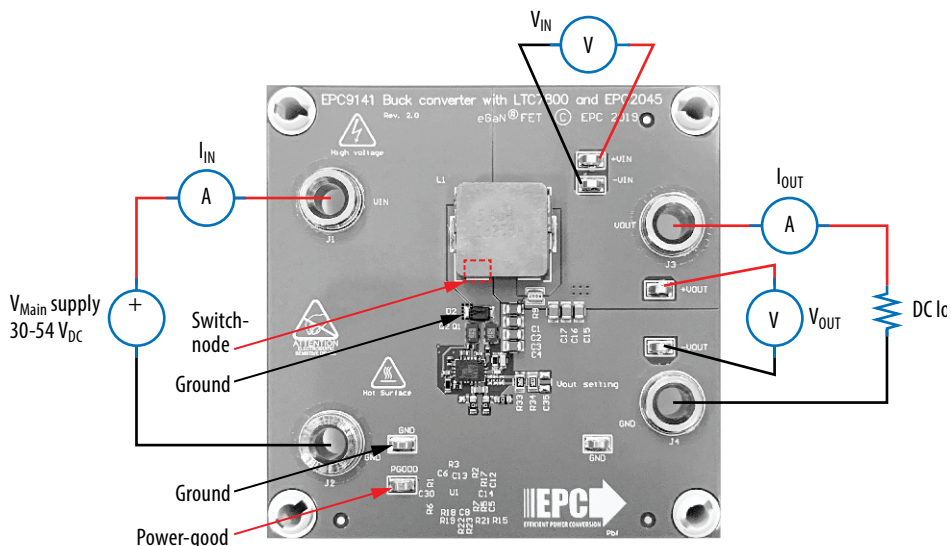

Figure 3: Proper measurement setup
1. When measuring the high frequency content switch node, care must be taken to avoid long ground leads. Measure the switch node by placing the oscilloscope probe tip on the inductor pad and bottom pad of D2 as shown in figure 3. Measuring the switch node with a high bandwidth ( $\geq 500$  MHz) probe and high bandwidth scope ( $\geq 1$  GHz) is recommended.